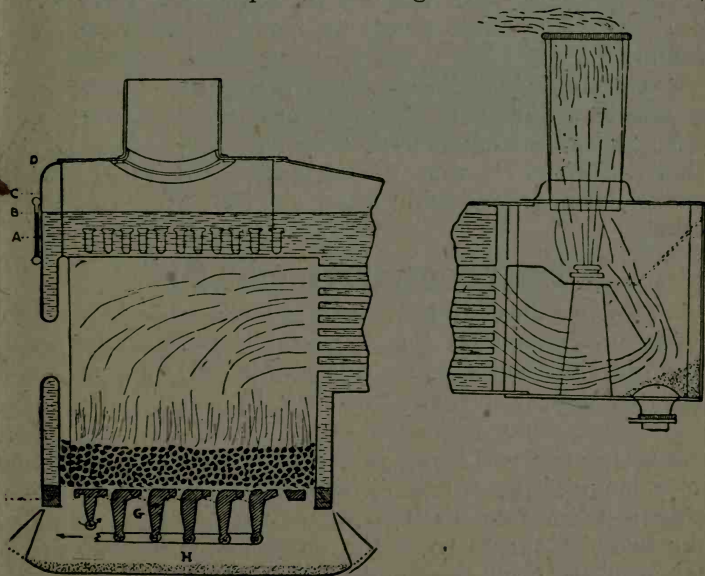
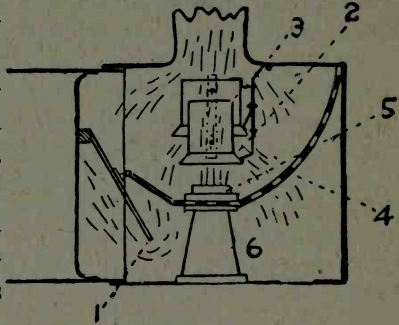

Fig. 1.
Fig. 3.
it brings the greatest possible heating surface in contact with the water, and thereby assists to convert the water in the boiler into steam. (See Fig. 1.)
The draft appliances of a locomotive, as shown in Fig. 3, are diaphragm (1), petticoat pipe (2), adjustable sleeve (3), netting (4), exhaust nozzle (5), and exhaust stand (6).
The netting (4), shown in (Fig. 3), is a wire net, or screen, fastened to the smoke-box to prevent the sparks and cinders from passing out of the stack. The smoke, gases and small cinders passing through the flues are deflected downward by the diaphragm, then pass through the netting which prevents the larger sparks and cinders from escaping and causes them to collect in the bottom of the smoke-box (See Fig. 1). After the cinders are broken into fine particles by being dashed against the netting they mostly pass out of the stack with the smoke and gases.